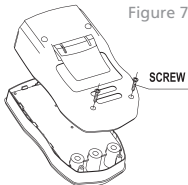

Figure 7
B. Replacing the Battery (Figure 7)
C. Replacing the Fuses (Figure 7)